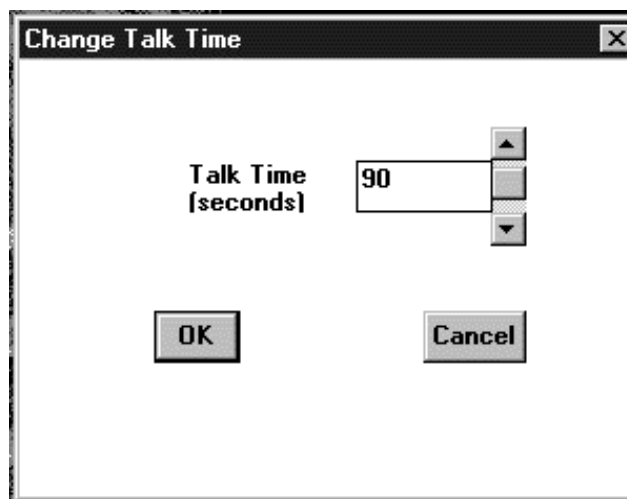

Figure 5.6.2.5
a) After selecting the **Talk Time Setting** per section 5.6.2.1, the following *Change Talk Time* window (Figure 5.6.2.5) will appear: